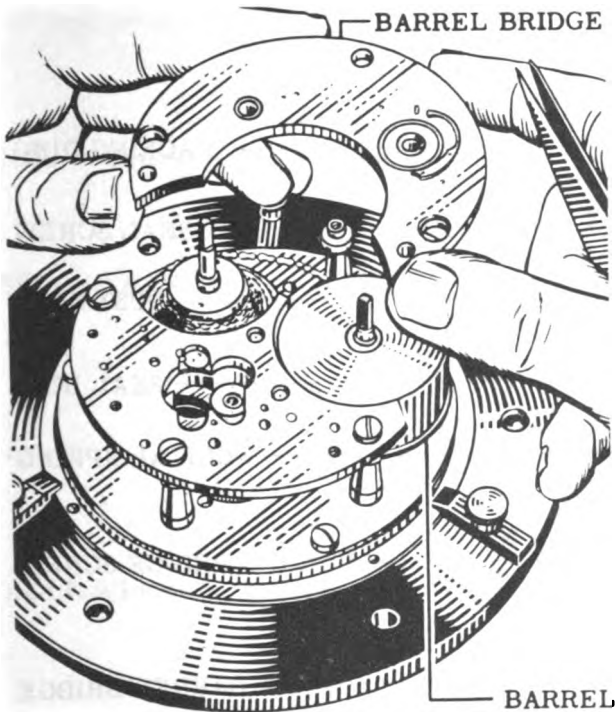

Figure 77
44. Install barrel bridge (see Fig. 77) and fasten three barrel bridge screws, using shell screwdriver, Tool No. 96.